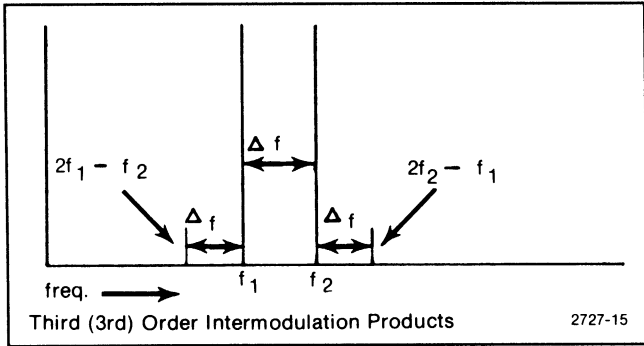

Figure 4-16. Intermodulation products.
d. Check that the third order IM products are at least 70 dB down from the input signal level. See Figure 4-16.